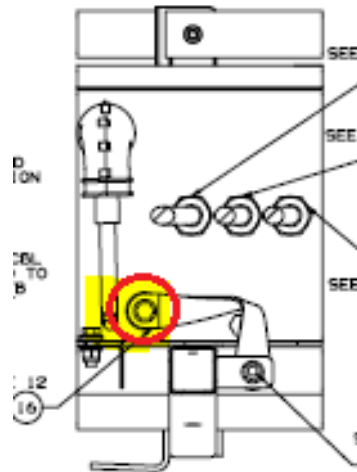

Figure 17: Aux Distribution Box Upper Ground Strap Connection
59. Ensure the M8 bolt at the upper ground strap connection for the High Voltage Fuse Box circled below in Figure 17 is torqued to 13 ft-lbs.
60. Ensure the 5/16 bolt at the lower ground strap connection for the High Voltage Fuse Box circled below in Figure 17 is torqued to 15 ft-lbs.